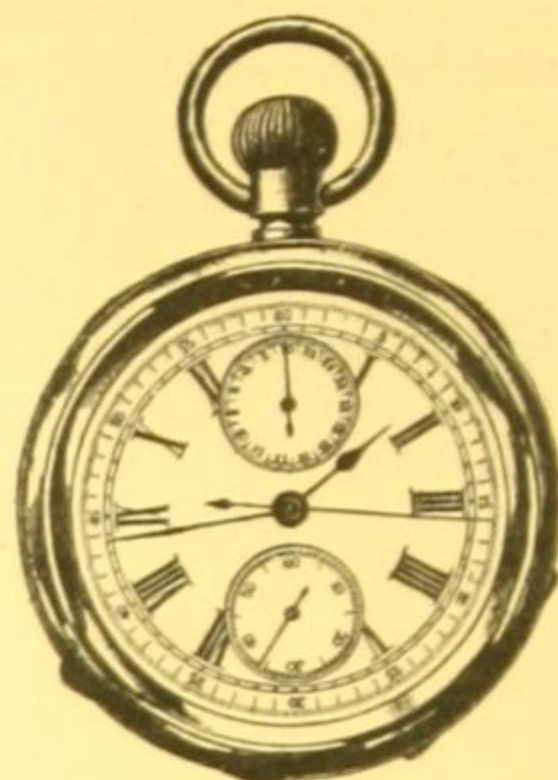

Fig. 123.
- SM 456.—**The "Engineer" Chronograph Watch.** Lever escapement fully jewelled, compensated for temperature and non-magnetic. The large hand of chronograph records fifths of seconds and the small hand minutes to 30 minutes. Silver case. Starting, stopping and fly-back action ..... Fig. 123 **£15 15 0**